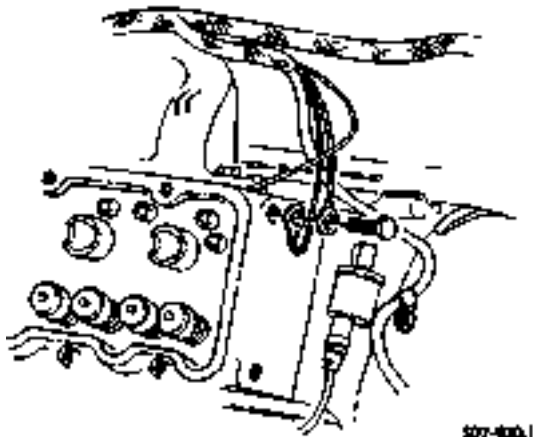

Figure 2-40: Ground Connections at Rear of Cylinder Head
10. Disconnect or remove (Figure 2-40):